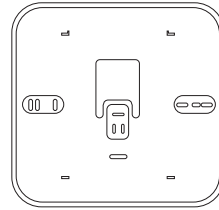

Fig. 10
- If necessary, install the mounting plate to the electrical box included in the kit (Fig. 10).